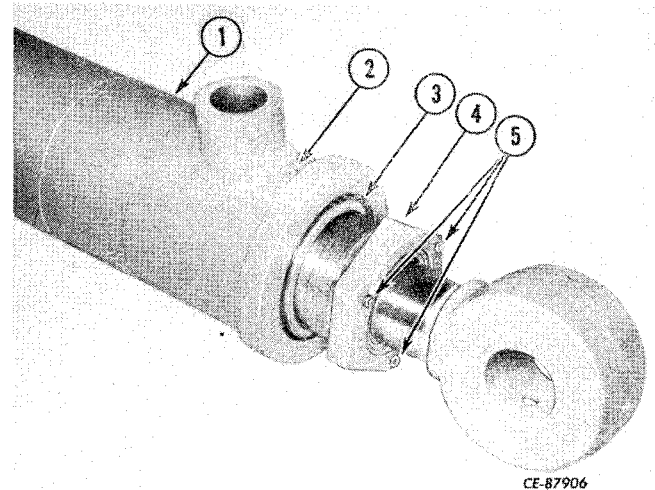

Figure 11-11
Loosen the set screws (5, Fig. 11-11) and remove the rubber plug (2).
Install the retaining ring (3, Fig. 11-11) in the groove in the cylinder cap. Rotate the cylinder cap until the hole in the cylinder and cap are aligned. Insert a punch in the holes and install the packing nut (4). Tighten the nut snugly. Tighten the set screws (5) securely and install the rubber plug (2).